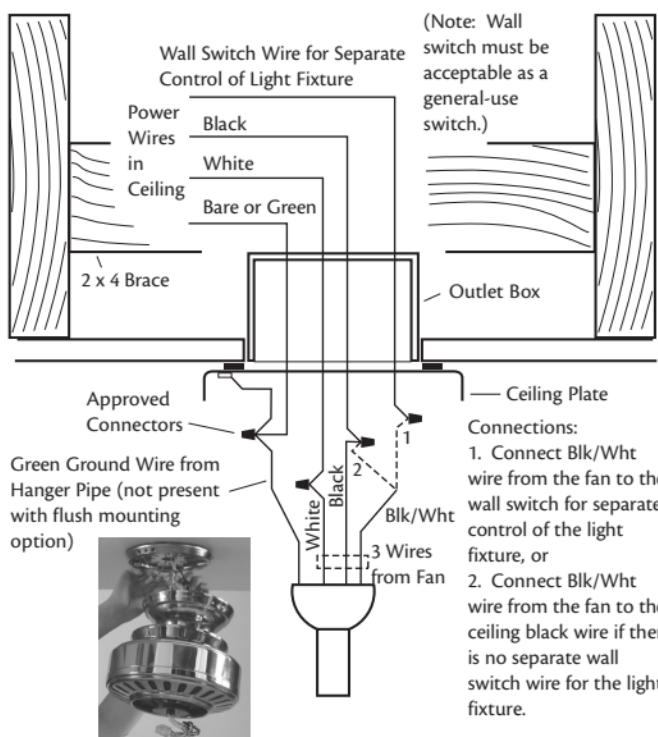

Figure 17 - Wiring the fan
- You can use either one or two wall switches to control the fan and/or lights separately. Use connection 1, as described in Figure 17, to
Use connection 2, as described in Figure 17, if there is no separate wall switch power wire for the light fixture.
- Connect the wires as shown in Figure 17. To connect the wires, twist the bare metal leads together. Place a wire nut over the intertwined length of wire and twist clockwise until tight as.